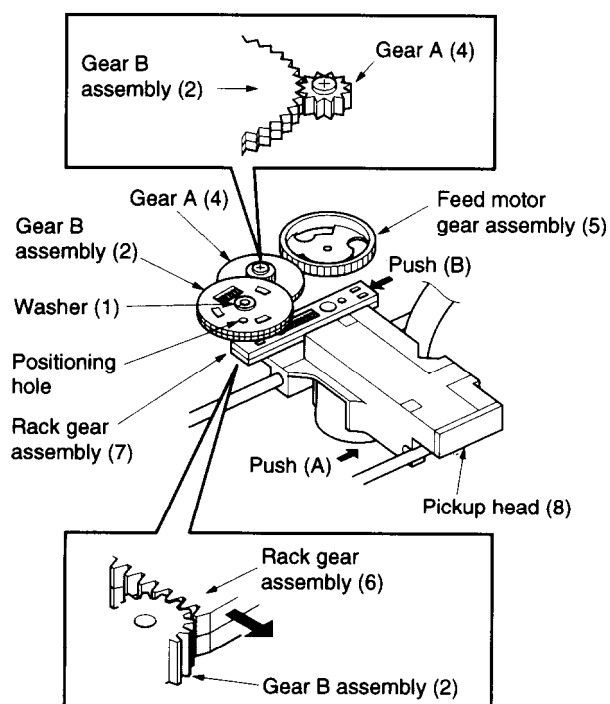

Fig. 1-3-13
- Remove two screws (6), and remove the rack gear assembly (7). (Refer to Fig. 1-3-13.)
- Push the pickup head (8) to the disc motor side (direction of the arrow (A)), and push and slide the upper gear of the rack gear assembly (6) (direction of the arrow (B)).
- Align the positioning holes of the upper and lower gears of the gear B assembly (2), insert them into the gears of the gear A (4) and the rack gear assembly (7), and fix them with the washer (1).